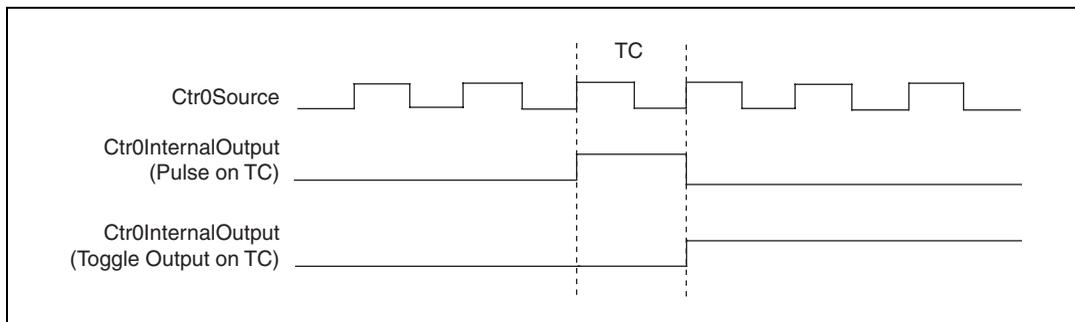

Figure 7-9. Ctr1InternalOutput Behavior
The Counter 1 Internal Output (Ctr0InternalOutput) signal is the output of Counter 1. This signal reflects the terminal count (TC) of Counter 1. The counter generates a terminal count when its count value rolls over. The two software-selectable output options are pulse on TC and toggle output polarity on TC. The output polarity is software-selectable for both options. Figure 7-9 shows the behavior of the Ctr1InternalOutput signal.